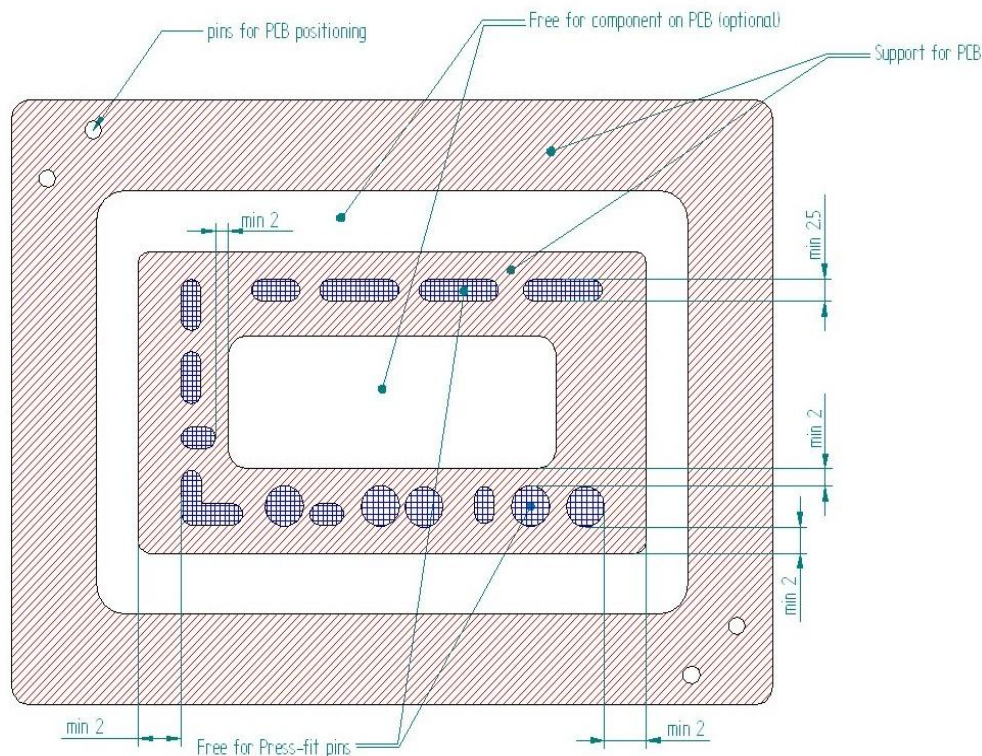

Figure 17: The recommended hole and cutout dimensions for supporting tool
- Figure 17 shows the recommended hole and cut-out dimensions for the Press-fit pins. The recommended diameter of the holes / cut-outs for the pins in the supporting tool is between 1.7 mm and 4 mm (depending on the positioning accuracy). The minimal supporting place around the pin is 2 mm. If the pins are close to each other then it is possible to make a lengthwise cut-out for more pins as well (the min. distance of PCB components from the PCB pinhole should also be considered here). It is necessary to position the PCB and the module as well. The depth of the cut-outs for the pins is 6 mm.